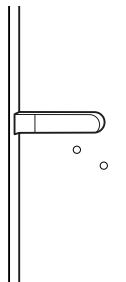

Figure 1
- A. Find the marked holes and grooves on back side of the door (fig. 1).